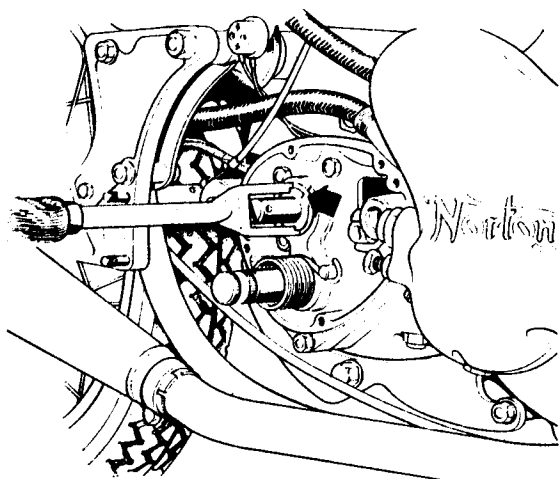

Fig. D1(a) Removal of clutch body lockring. Note alignment marks on lock ring and cover
Prior to removing the gearbox inner cover it is necessary to mark clearly the position of the clutch operating body by two punch marks which are shown in *Fig. D1(a)*. This is due to the fact that the clutch operating body has no positive rotational location. Proceed as follows:
- 2 Remove the clutch operating body locking ring as in *Fig. D1(a)* and lift away the clutch operating body and the ball.